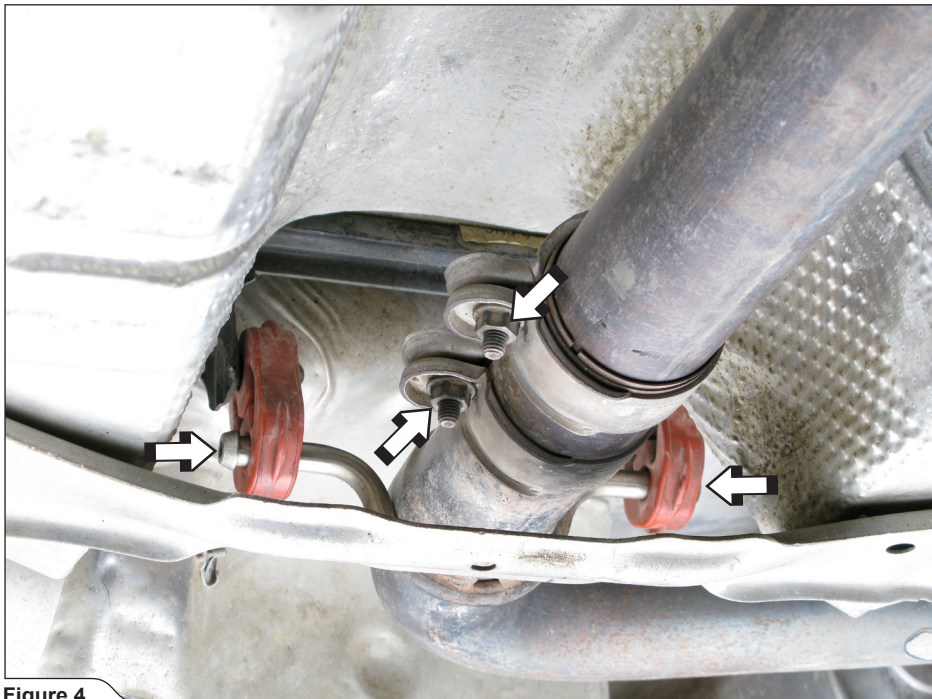

Figure 4
3. **For 1.8TSI model only:** loosen the marked clamp and carefully pull the rubber brackets off the pipe's brackets (**Figure 4**).